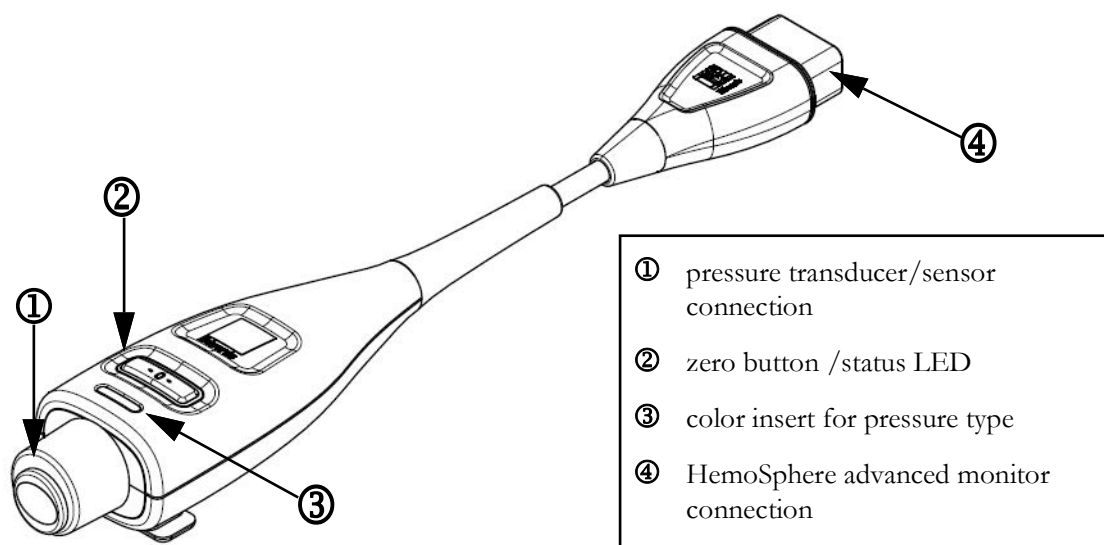

Figure 10-1 HemoSphere pressure cable
The HemoSphere pressure cable is a reusable device that connects with the HemoSphere monitor on one end ④ and any approved single Edwards disposable pressure transducer (DPT) or sensor on the other end ①. See figure 10-1 on page 180. The HemoSphere pressure cable acquires and processes a single pressure signal from a compatible Edwards DPT, such as the TruWave DPT, or a FloTrac sensor. A FloTrac or Acumen IQ sensor connects to an existing arterial catheter to provide minimally invasive hemodynamic parameters. A TruWave transducer can connect to any compatible pressure monitoring catheter to provide location based intravascular pressure. Refer to the directions for use provided with each catheter for specific instructions on catheter placement and use, and for relevant warnings, cautions and notes. The HemoSphere pressure cable can be monitored through two technology monitoring modes based on the paired sensor/transducer: **FloTrac** or **Acumen IQ** sensor monitoring mode or **Swan-Ganz** catheter monitoring mode. The monitoring mode appears on the top of the navigation bar (see figure 5-2 on page 91). The appearance and connection points for the HemoSphere pressure cable are shown in figure 10-1.
Pressure Type Color Insert. If desired, the appropriate color insert can be used on the pressure cable to indicate the monitored pressure type. See ③ in figure 10-1 below. The colors are as follows:
- Red for arterial pressure (AP)
- Green for cardiac output (CO)
- 7 Use a straight in or out motion to connect the green connector of the primed FloTrac sensor. The pressure cable LED that surrounds the zero button (see ② in figure 10-1) will flash green indicating that the pressure sensor is detected. A yellow light indicates a fault condition. If this occurs refer to the status bar for specific fault condition details.
Press the physical zero button  directly on the pressure cable and hold for three seconds (see figure 10-1).